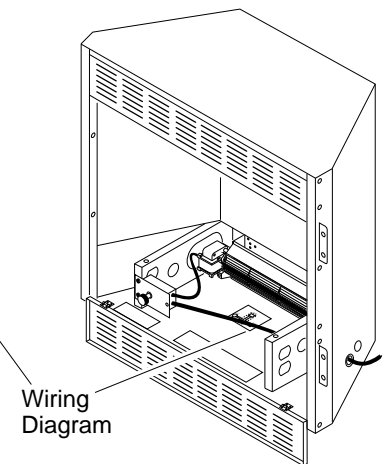

Figure 23 - Location of Wiring Diagram Decal 3" from Blower
14. Peel off backing paper and stick supplied wiring diagram decal near center of firebox bottom (see Figure 23).